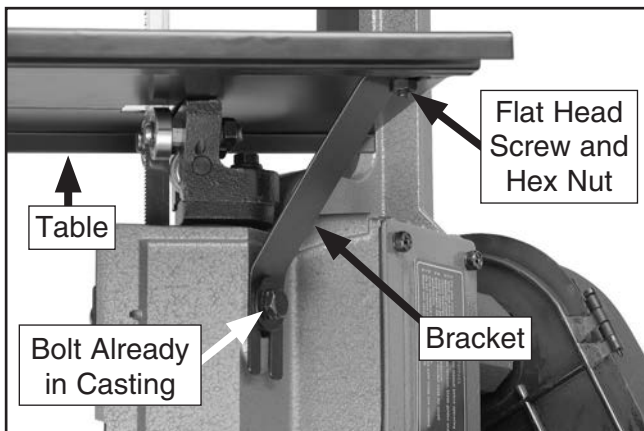

Figure 22. Table and bracket installed.
3. Install table bracket using pre-installed bolt already in casting (see **Figure 22**).